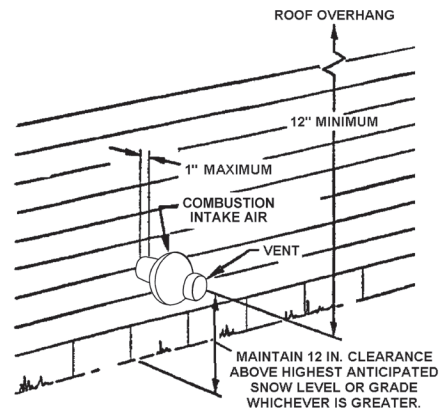
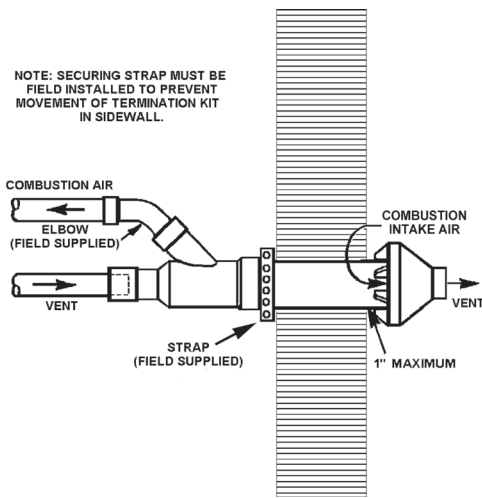

Figure 29
Figure 30
6. Ensure the Y connection is oriented so the air intake side of Y is on top, see Figure 30.
7. Secure assembly to structure as shown in Figure 29 using field-supplied metal strapping or equivalent support material.
NOTE: Ensure termination location clearance dimensions are as shown in the diagrams found in Figure 29 and Figure 30. When extending the length of the 4" pipe, the added length beyond 21-1/8" must be deducted from the maximum equivalent feet of vent pipe.
8. Cement heater combustion-air and vent pipes to concentric vent termination assembly. See Figure 30 for proper pipe orientation and attachment.